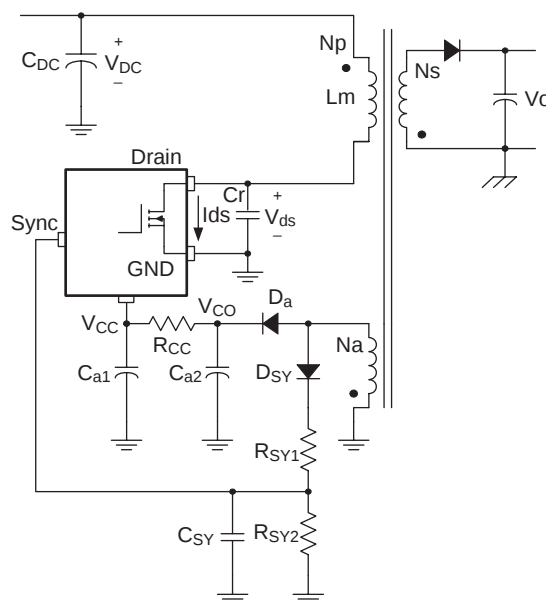
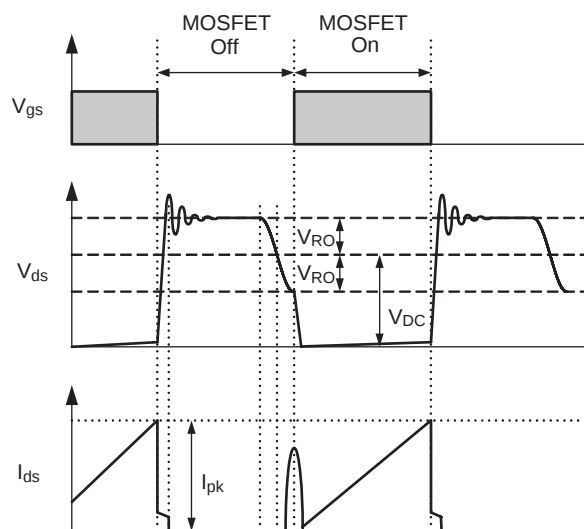
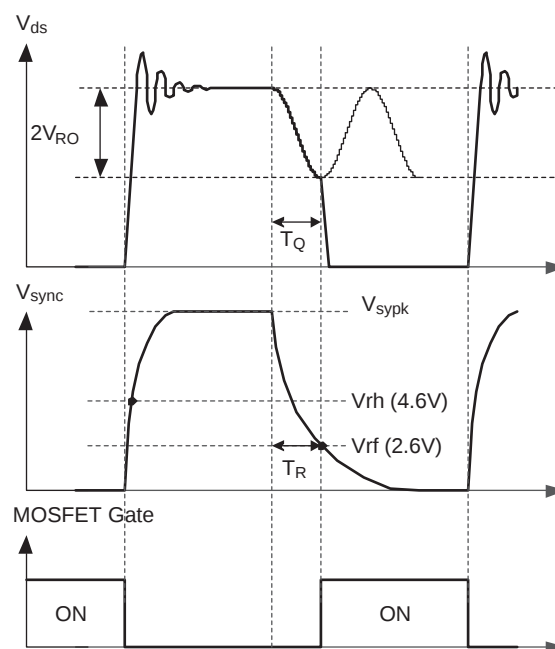

Figure 6. Synchronization Circuit
Figure 7. Quasi-Resonant Operation Waveforms
Figure 8. Normal Quasi-Resonant Operation Waveforms
2. Synchronization: The FSCQ-Series employs a quasi-resonant switching technique to minimize the switching noise and loss. In this technique, a capacitor (C_r) is added between the MOSFET drain and the source as shown in Figure 6. The basic waveforms of the quasi-resonant converter are shown in Figure 7. The external capacitor lowers the rising slope of the drain voltage to reduce the EMI caused when the MOSFET turns off. To minimize the MOSFET's switching loss, the MOSFET should be turned on when the drain voltage reaches its minimum value as shown in Figure 7.
The minimum drain voltage is indirectly detected by monitoring the Vcc winding voltage as shown in Figure 6 and 8. Choose voltage dividers, R_{SY1} and R_{SY2} , so that the peak voltage of the sync signal (V_{syk}) is lower than the OVP voltage (12V) to avoid triggering OVP in normal operation. It is typical to set V_{syk} to be lower than OVP voltage by 3–4V. To detect the optimum time to turn on MOSFET, the sync capacitor (C_{SY}) should be determined so that T_R is the same with T_Q as shown in Figure 8. The T_R and T_Q are given as, respectively: